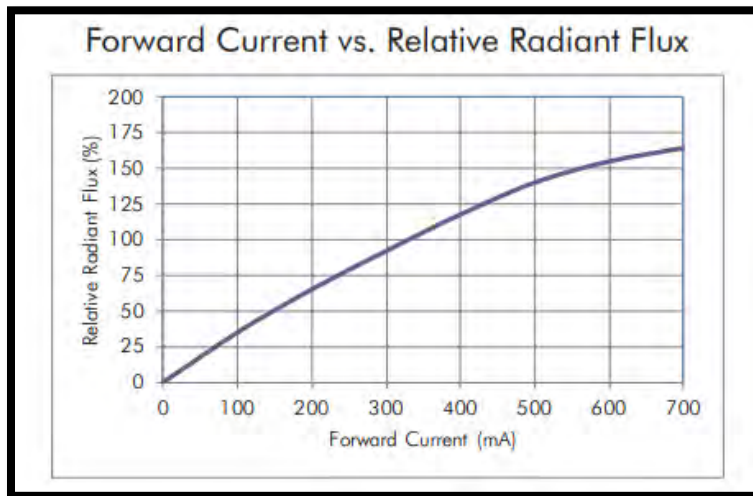

Figure 2: Relative radiant flux as a function of the driving current for a UV LED
b) **Driving current:** Optical output of an LED is directly proportional to the driving current chosen as shown in the Figure 2 below. This would be the minimum output current required from the power supply (in case of a single LED product) and would determine the intensity of the light. Hence, this may be varied on the basis of the application.